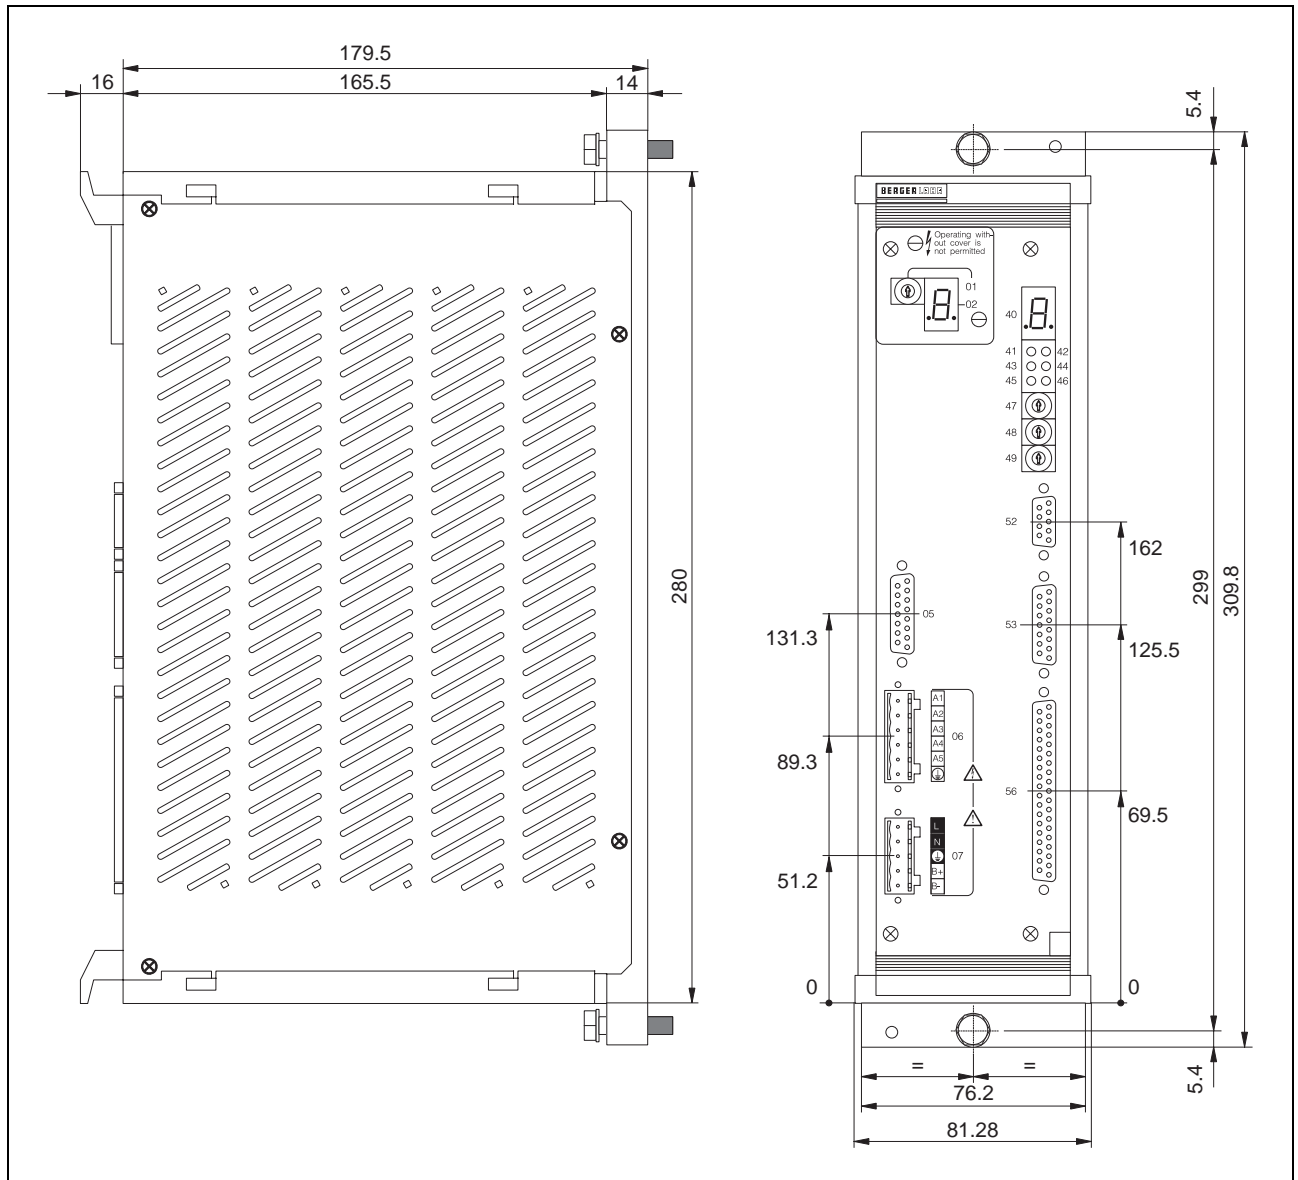

Fig. 1-18 WDP5-228 dimensions
Dimensions	see fig. 1-18
1. Drill two holes in the mounting panel, dimensions see fig. 1-18.